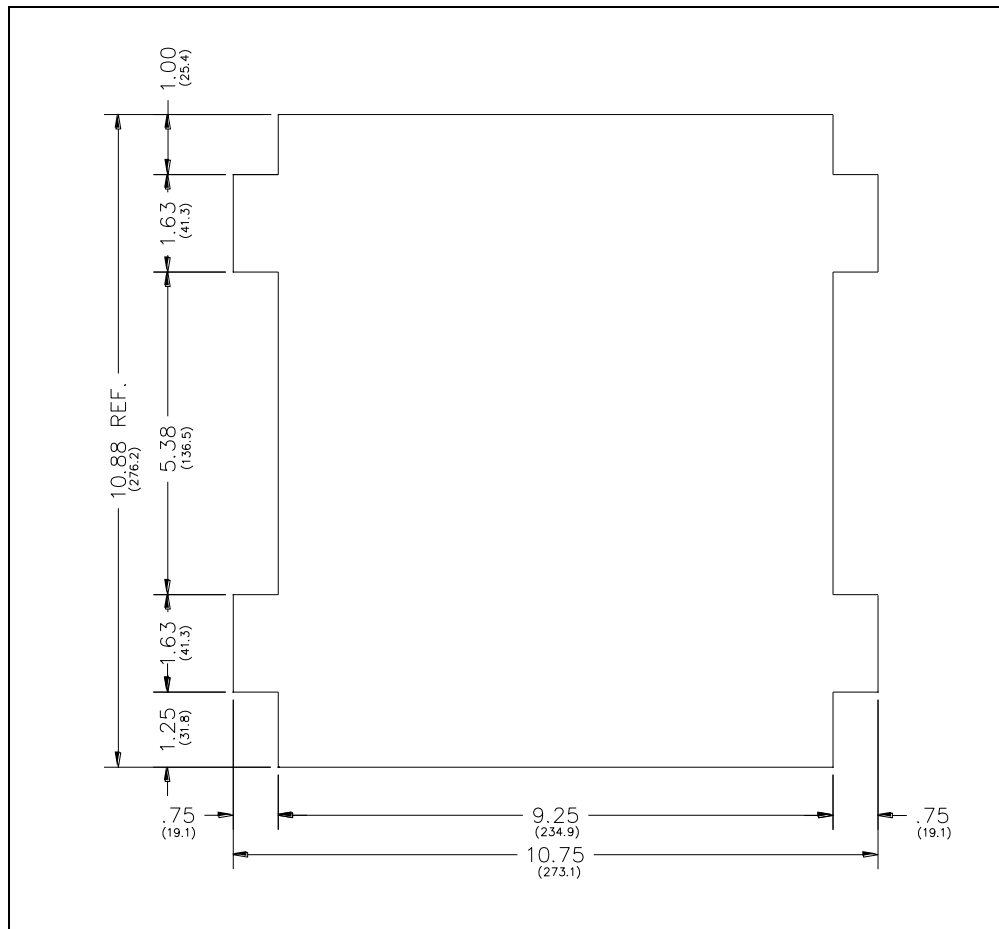

Figure 6. Wall Cut-out Dimensions for Model 295-712F
3. Mark the wall using the cut-out dimensions as a guide (see Figure 6).